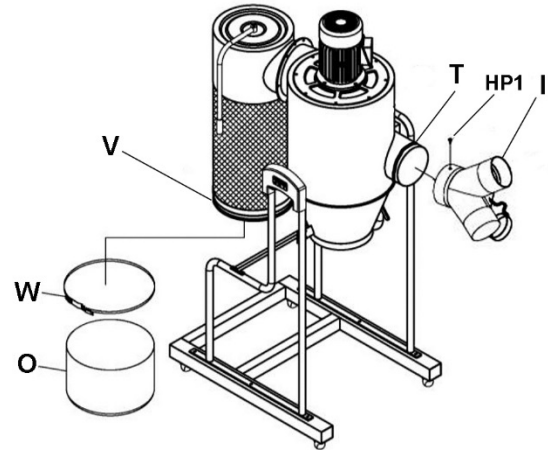

Figure 10
11. Apply foam tape (T) around inlet port near edge. See Figure 10. The foam tape should completely encircle the port.
12. Install inlet adaptor (I) on main housing and secure with pan head screw (HP1).
13. Apply foam tape (V) just above lower lip of canister filter. The foam tape should completely encircle the canister filter.
14. Install collection bag (O) to bottom of canister filter and secure with steel bag clamp (W).